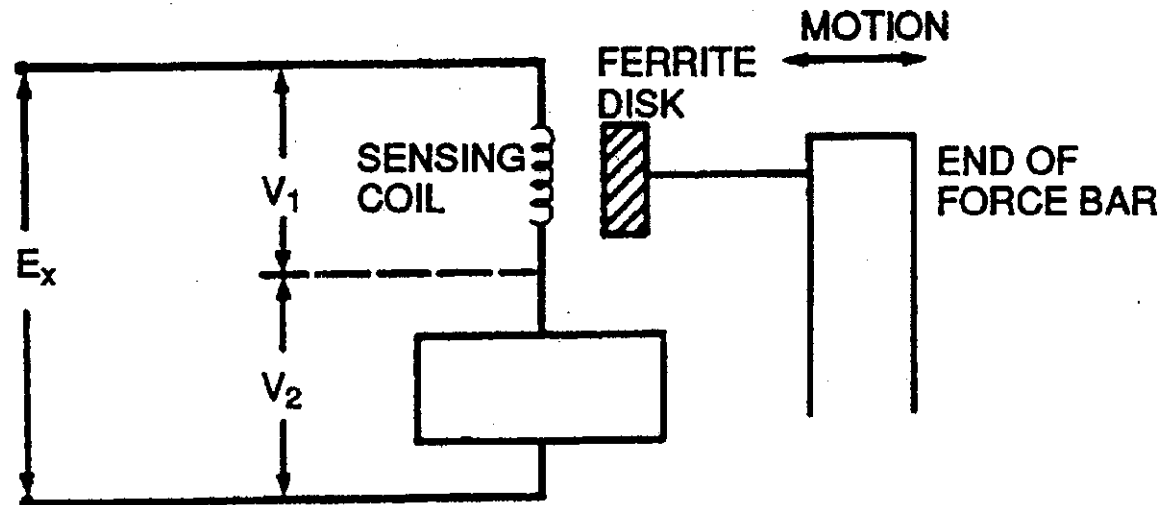

Figure 1: A Variable Inductance Position Sensor.
- With the disk in a given position, the coil inductance (L) will cause a particular reactance ($X_L = 2\pi f L$) resultant voltage applied to the detector in Figure 1 will be $V_2 = E_x - V_1$.